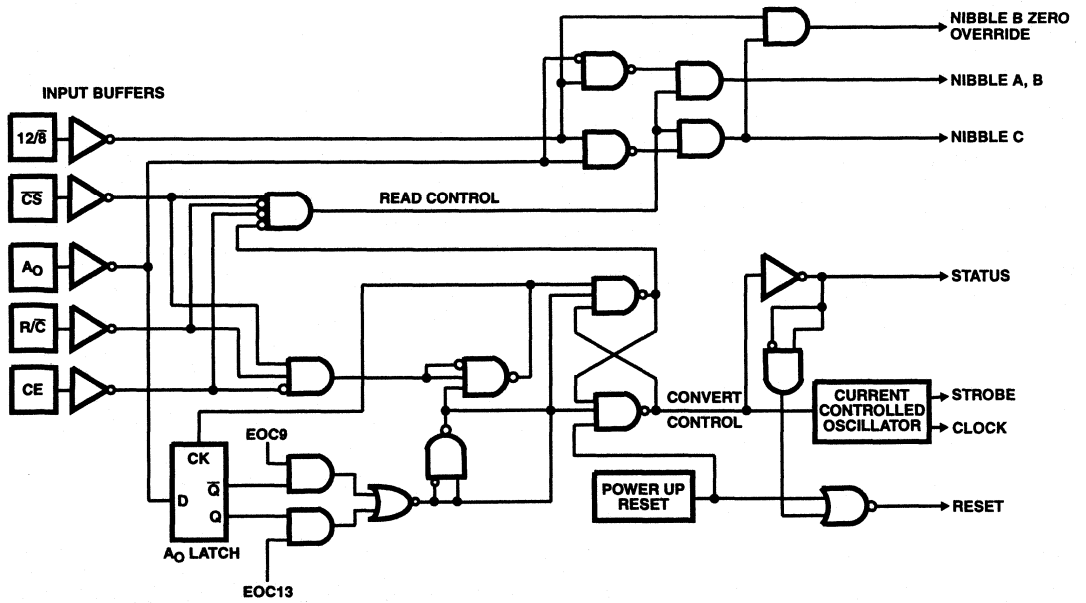

FIGURE 7. HI-774 CONTROL LOGIC
The HI-X74(A) includes logic for direct interface to most microprocessor systems. The processor may take full control of each conversion, or the converter may operate in the "stand-alone" mode, controlled only by the R/C input. Full control consists of selecting an 8-bit or 12-bit conversion cycle, initiating the conversion, and reading the output data when ready-choosing either 12 bits at once or 8 followed by 4, in a left-justified format. The five control inputs are all TTL/CMOS-compatible: ($12/8$, CS, AO, R/C and CE). Table 1 illustrates the use of these inputs in controlling the converter's operations. Also, a simplified schematic of the internal control logic is shown in Figure 7.